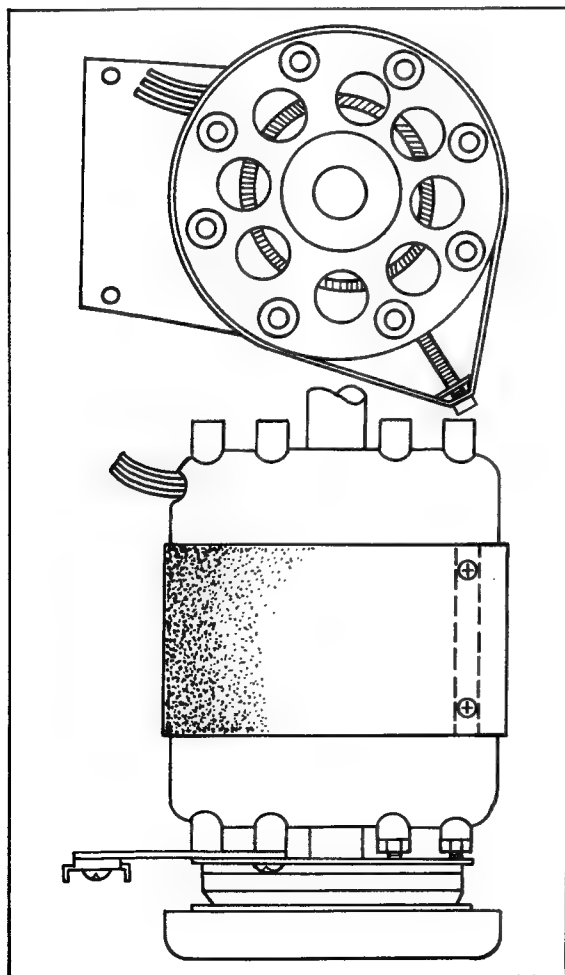

Fig. 4-18. Installation of the motor hum belt
7. Set the Function Lever to PAUSE. Hold the motor with one hand and back out the four Phillips-head screws from the top of the chassis. See Fig. 4-18.
10. Install the hum belt on the new motor. Position the mounting screws as shown in Fig. 4-18. Make sure that the hum belt straddles the two end bells equally.